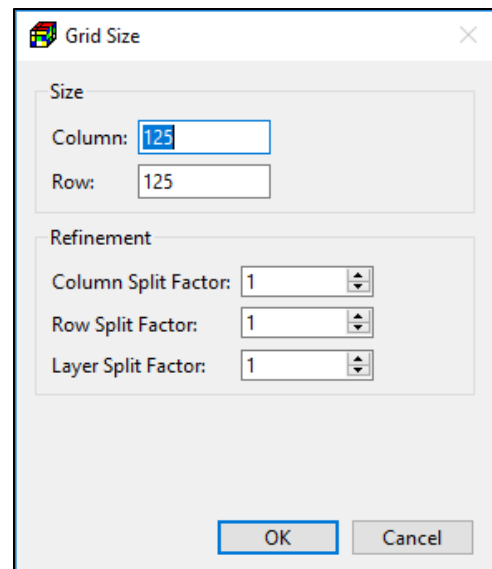

Figure 15. The Grid Size dialog box
- Right-click on the cell where the column/row width or refinement need to be modified or use the arrow keys to move the grid cursor to the cell and then press Enter. The Grid Size dialog box (Figure 15) is displayed.